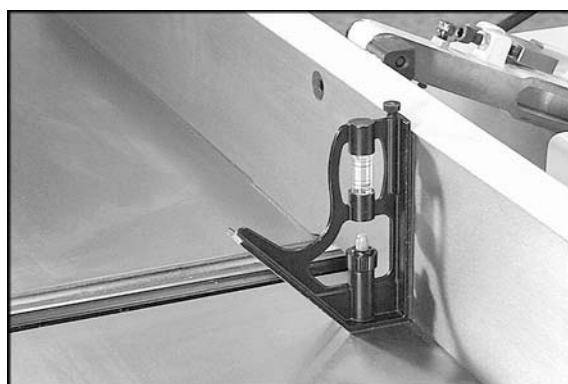

Figure 15
4. Place a combination square on the infeed table. (Fig. 15)